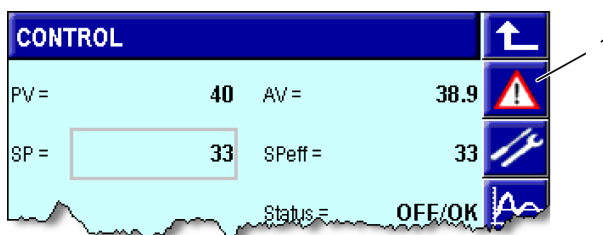

Fig. 40: Active alarm
- **Call:** Click on the "Alarm" button (Fig. 40/1) to call the alarm page.